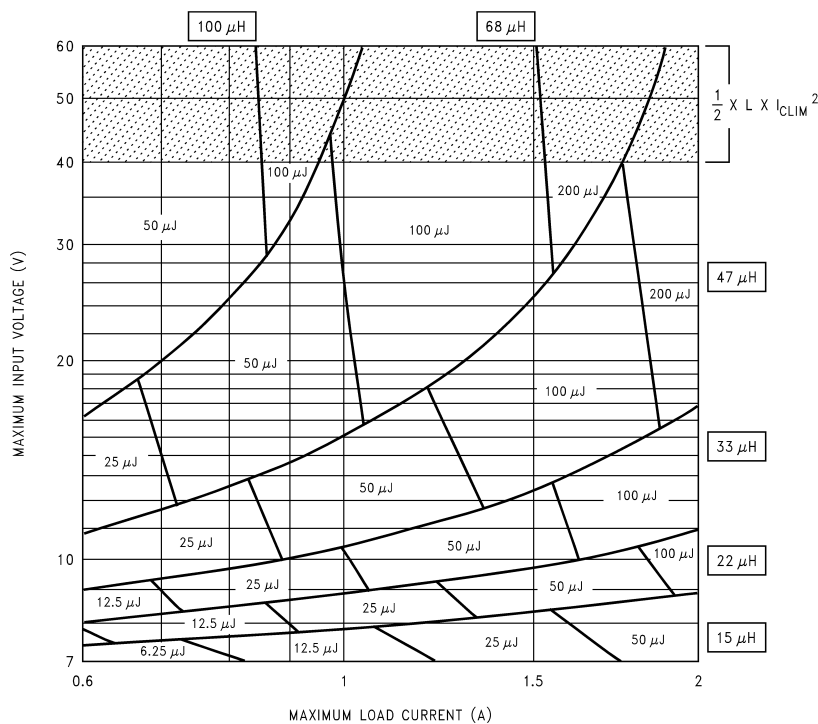

Figure 26. LM2592HV-5.0
1. A first pass inductor selection is based upon *Inductance and rated max load current*. We choose an inductor with the Inductance value indicated by the nomograph (see Figure 26) and a current rating equal to the maximum load current. We therefore quick-select a 68μH/1A inductor (designed for 150 kHz operation) for this application.
2. We should confirm that it is rated to handle 50 μJ (see Figure 26) by either estimating the peak current or by a detailed calculation as shown in AN-1197, and also that the losses are acceptable.
1. A first pass inductor selection is based upon *Inductance and the switch current limit*. We choose an inductor with the Inductance value indicated by the nomograph (see Figure 26) and a current rating equal to I_{CLIM} . We therefore quick-select a 68μH/4A inductor (designed for 150 kHz operation) for this application.